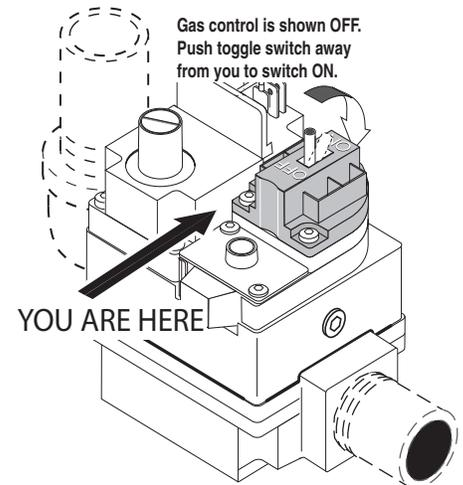

Figure 37.
- Toggle-Style Valve:** Pull toggle toward you to turn gas off, see Figure 37.
- Wait five (5) minutes to clear out any gas. If you then smell gas, **STOP!** Follow “B” in the “Before Start-up” instructions (page 42). If you don’t smell gas, go to the next step.